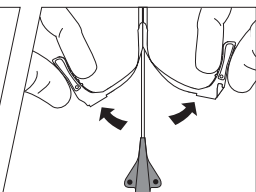

Figure 6
- 29. Withdraw peel-away sheath over catheter until sheath hub and connected portion of sheath is free from venipuncture site. Grasp tabs of peel-away sheath and pull away from the catheter (refer to Figure 6), while withdrawing from vessel until sheath splits down its entire length.